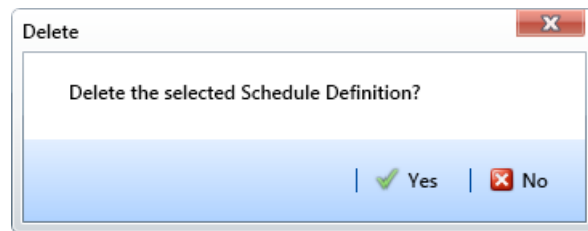

Figure 9-13. Delete Message
- 3 If you want to delete the addition, click  **Delete**, then click  **Yes** when the *Delete* message displays (Figure 9-13).